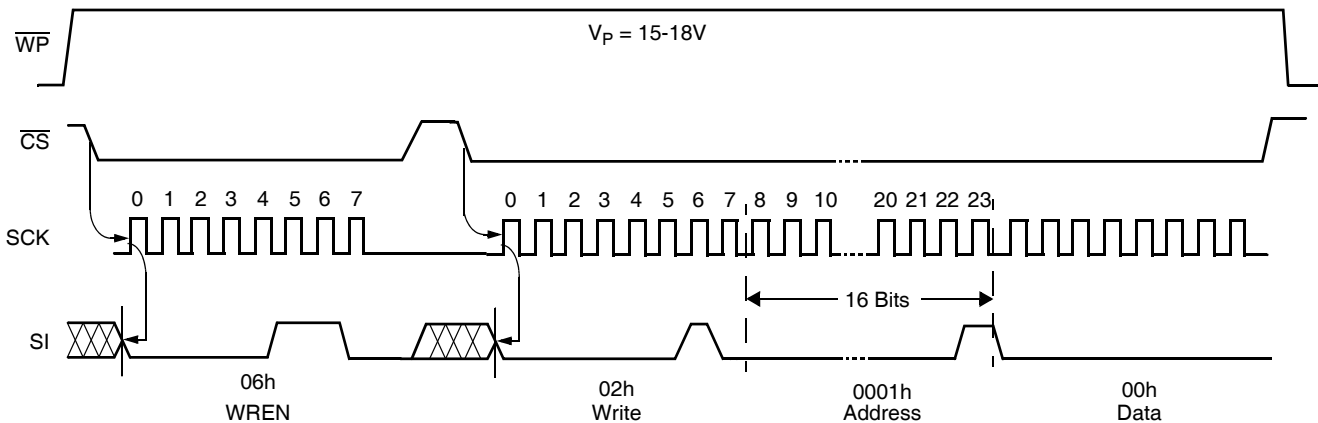

FIGURE 1. SET V_{TRIP} LEVEL SEQUENCE ($V_{CC} = \text{DESIRED } V_{TRIP} \text{ VALUE}$)
0000 0001	<p>Write status instruction—followed by: Block lock/WDT byte: (See Figure 1) 000WD₁ WD₂000 --->no block lock: 00h-00h--->none of the array 000WD₁ WD₂001 --->block lock Q1: 0000h-00FFh--->lower quadrant (Q1) 000WD₁ WD₂010 --->block lock Q2: 0100h-01FFh--->Q2 000WD₁ WD₂011 --->block lock Q3: 0200h-02FFh--->Q3 000WD₁ WD₂100 --->block lock Q4: 0300h-03FFh--->upper quadrant (Q4) 000WD₁ WD₂101 --->block lock H1: 0000h-01FFh--->lower half of the array (H1) 000WD₁ WD₂110 --->block lock P0: 0000h-000Fh--->lower page (P0) 000WD₁ WD₂111 --->block lock Pn: 03F0h-03FFh--->upper page (PN)</p>